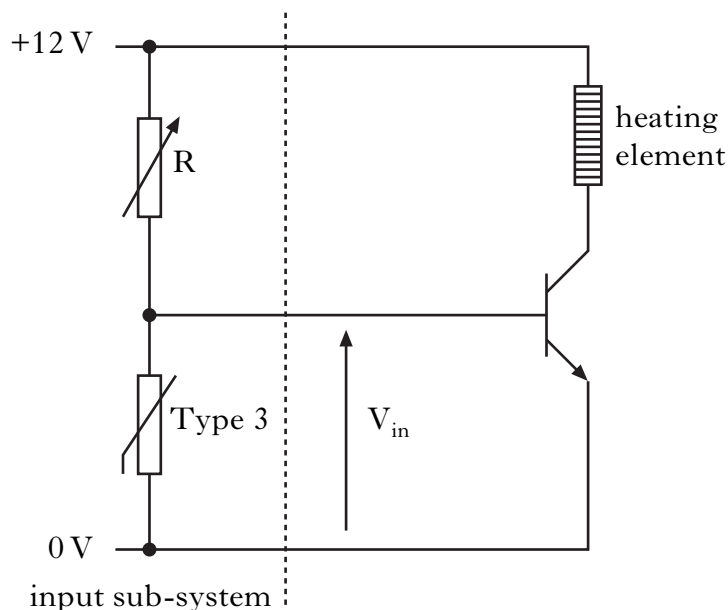

Figure Q2
2. The circuit shown in Figure Q2 represents a system for controlling a heater in a greenhouse.